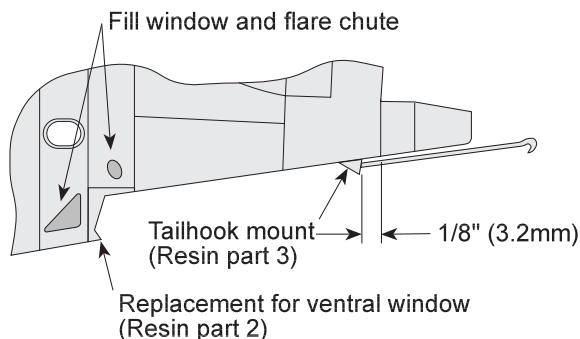

Figure 1
- c) Most, but not all TBM-3Es had external tailhooks. Check your references. If you need one, do not install kit part 22 inside. Once the fuselage halves have been assembled, fill the hole in the extreme tail. Use **resin part 3** and install where indicated in **Figure 1**. Cut the tailhook to 1-1/4" (32mm) long, drill a small hole in the aft end of the resin part and glue the tailhook in place.